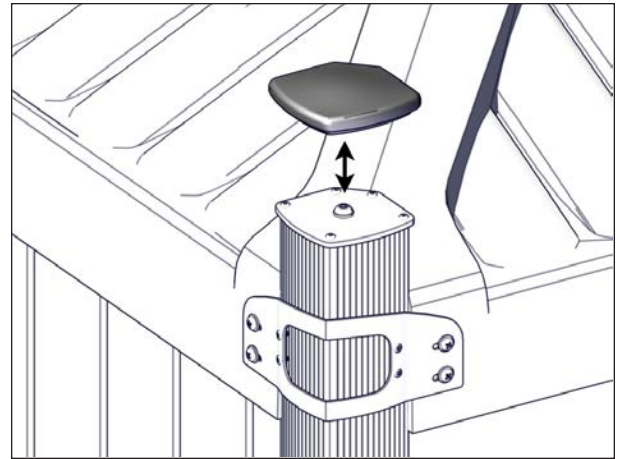

FIGURE 89: RUBBER CAP REMOVAL
2. Remove rubber cap on top of each post see Figure 89.